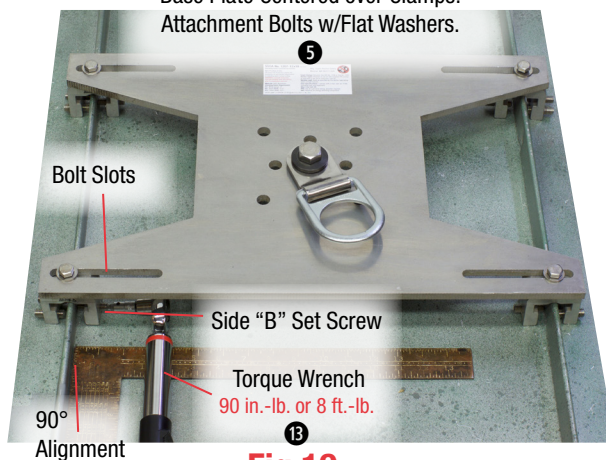
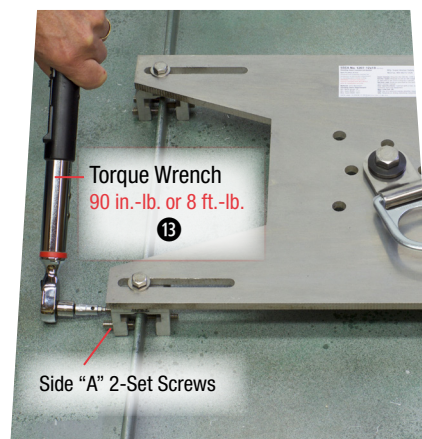

Fig.19
Fig.20
- 5) Attach base plate to clamp #1 with 3/8"x1.0" bolt w/flat washer and leave loose to allow for base plate movement during final clamp torqueing. See Fig.19.
- 8) Using a calibrated torque wrench set at 90 in.-lb. or 8 ft.-lb. tighten each clamp separately, starting with side "B" set screw first as shown at Fig.19, then tighten both side "A" screws alternately as shown at Fig.20 to maintain clamp centering as close as possible. After final torqueing, make a second pass to ensure torque specification has been met.